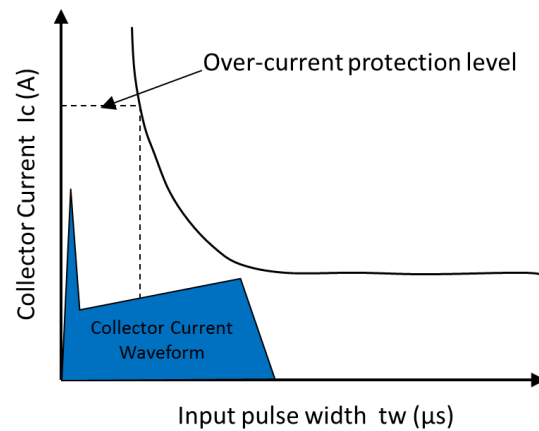

Figure 11. Filter Time Constant
A RC filter is used on the ITRIP(I) and ITRIP(P) inputs to prevent an erroneous OCP detection due to normal switching noise or recovery diode current. The time constant of the RC filter should be set to a value between 1.5 μ s to 2 μ s. In any case the time constant must be shorter than the IGBTs short current safe operating area (SCSOA). Please refer to data sheet for SCSOA. The resulting OCP level due to the filter time constant is shown in Figure 11.